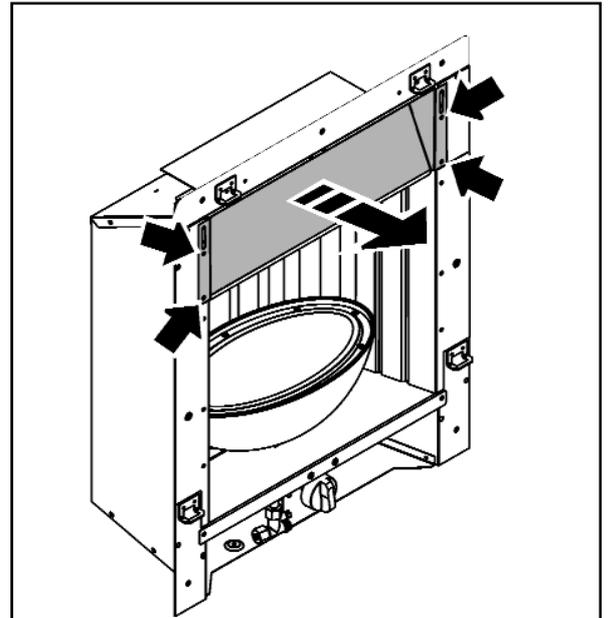

Figure 31. Spillage plate removal
2. Detach the spillage plate from the hotbox by removing the four screws (See figure 31).